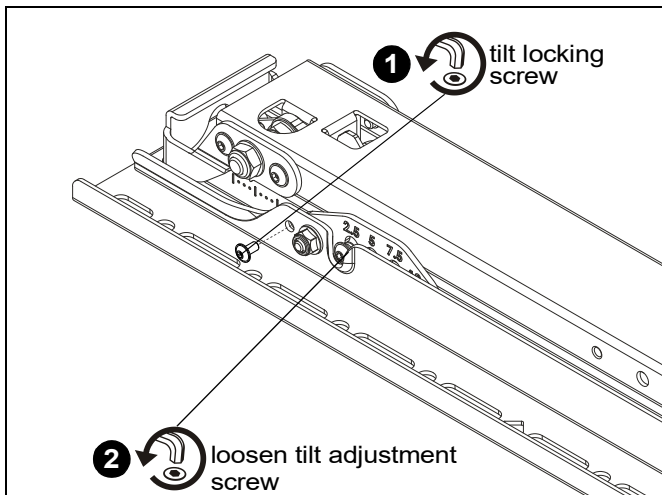

Figure 27
1. With display removed from mount, remove home tilt locking screws from interface brackets (A and B). (See Figure 27)
2. Loosen tilt adjustment screws on interface brackets (A and B). (See Figure 27)